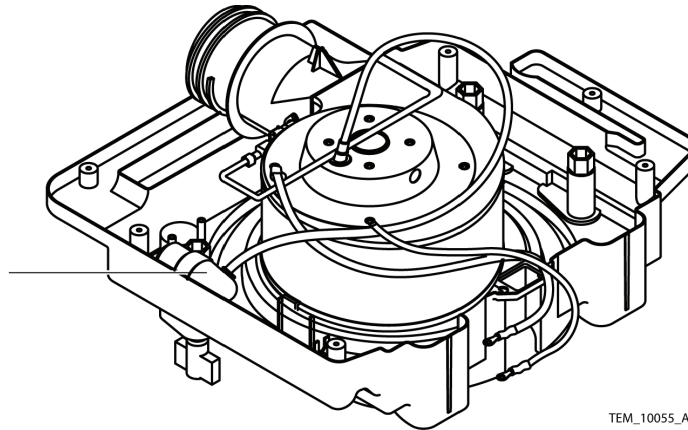

Figure 71. Blower Capacitor
23. Loosen the nut holding the capacitor to the rear cover assembly. See Figure 71.